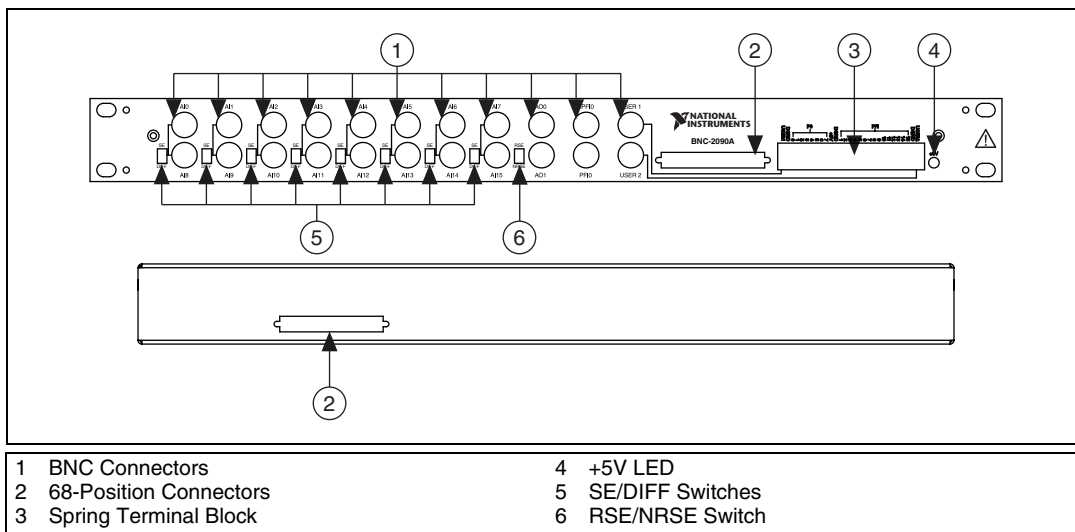

Figure 1-1. BNC-2090A Front Panel and Back of Enclosure
Figure 1-1 shows the front panel and enclosure back of the BNC-2090A.
5. Connect the BNC-2090A to the DAQ device using the front or rear 68-position connector, as shown in Figure 1-1.